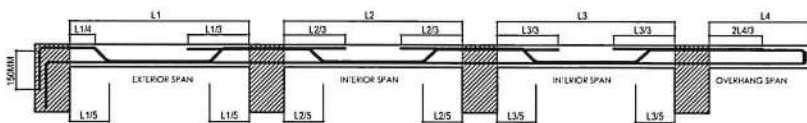

FIG. 1. TYPICAL DETAIL OF SLAB
- UNLESS OTHERWISE DETAILED IN CONTINUOUS SLABS HAVING SAME REINFORCEMENTS RUNNING IN ONE DIRECTION, REINFORCING BARS SHALL BE BENT UP OR EXTENDED AS SHOWN IN FIGURE 1.